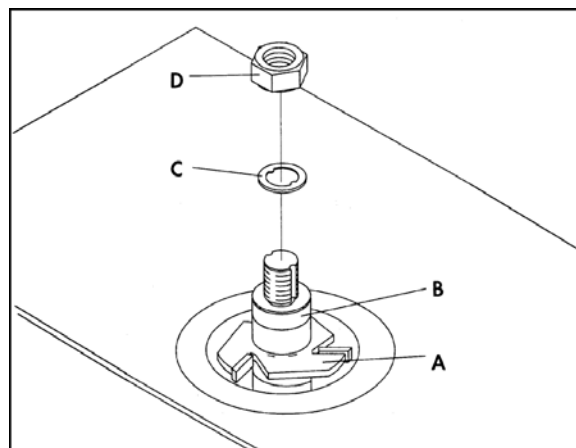

Figure 6
2. Place cutter (A, Figure 6) and desired spindle collars (B, Figure 6) on the spindle as shown.
3. Install keyed washer (C, Figure 6) and tighten nut (D, Figure 6) using the supplied wrench.
**⚠ WARNING** Always place the keyed washer (C, Figure 6) on the spindle before threading the nut. Failure to comply may cause serious injury.